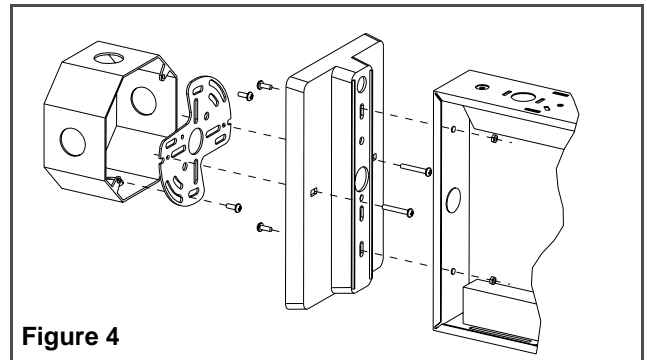

Figure 4
- e. Fasten the canopy to the exit housing. Remove knock out near the wire way and fix the canopy to the exit frame with the two screws/nuts provided with the canopy kit (see Fig. 4).